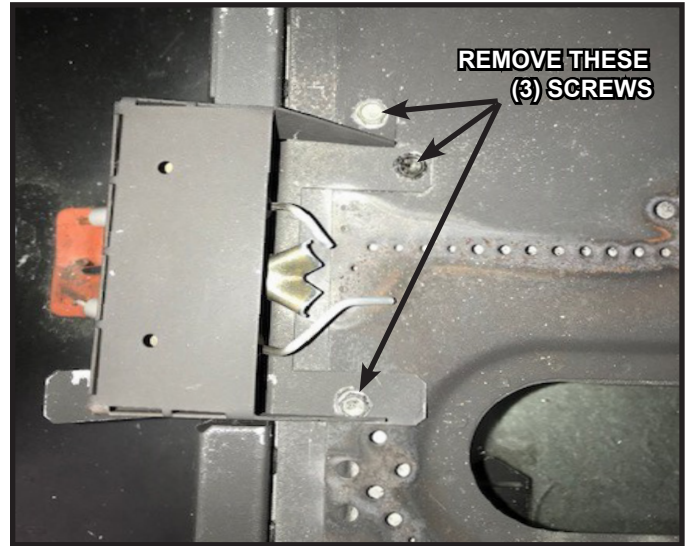

Figure 8 Screw location to detach Pilot Assembly and Pilot Hood
8. Using a screw gun with a 1/4 in. driver bit, remove the three (3) screws that fasten the Pilot Assembly and Pilot Hood to the left side of the Burner. See Figure 8.